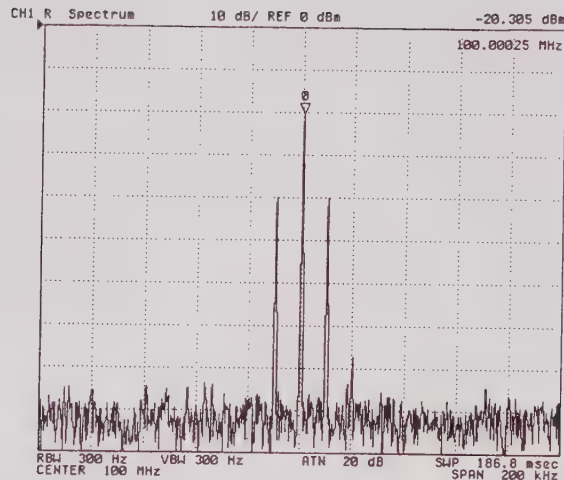

Figure 10-17. Carrier Amplitude and Frequency of AM Signal
2. Press **MAX** to search for the carrier signal. The carrier amplitude and frequency are displayed in the upper right corner as shown in Figure 10-17.